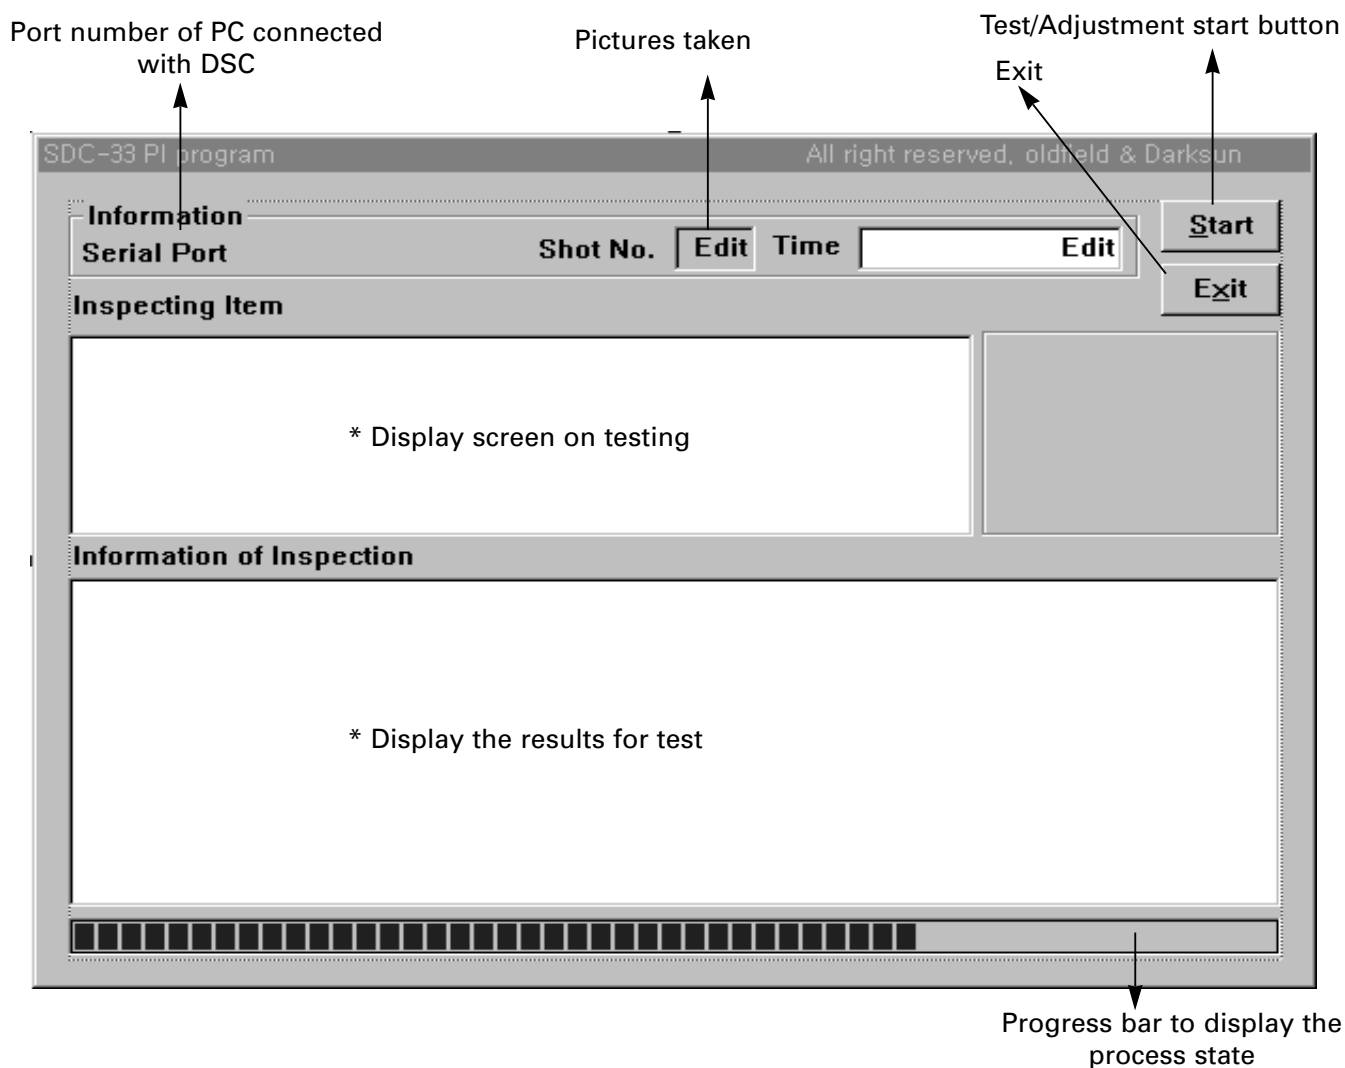

Fig. 5-8 Execution window of test/adjustment
- 2) Select 'Start' of SVC menu to display the window shown in Fig. 5-8.